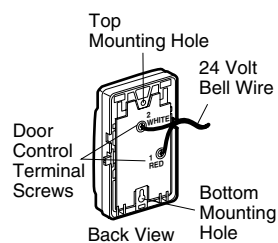

Figure 3
1. Strip 7/16" of insulation from one end of bell wire and connect to the two screw terminals on back of door control by color: white wire to 2 and white/red wire to the 1 (Figure 3).